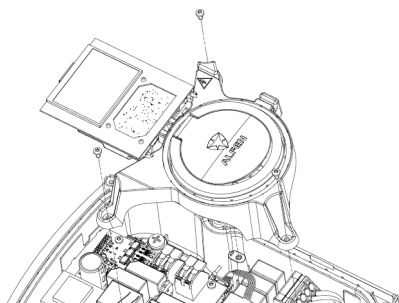

Figure 6: Detach subframe
6. Remove the cap (19) on page 2).
8. Remove the transparent subframe by removing the three Torx T20 screws. (See figure 6)